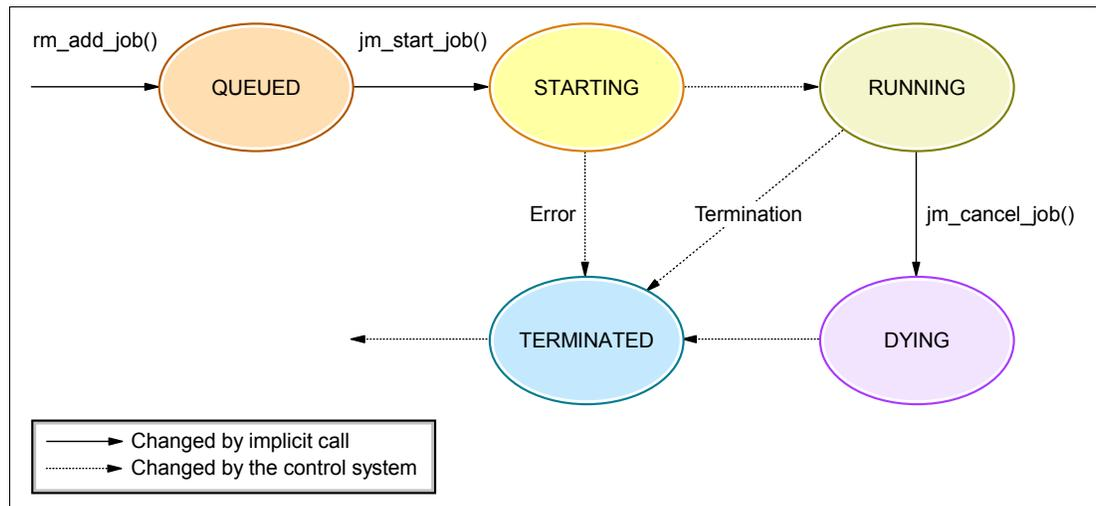
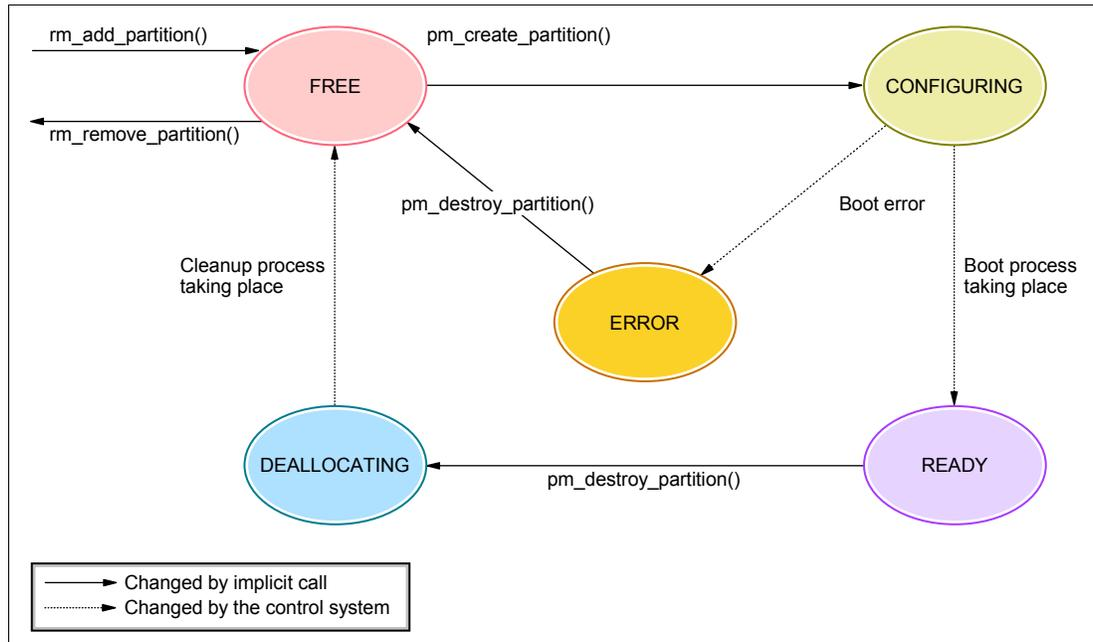

Figure 7-1 Job state diagram
Figure 7-2 Partition state diagram
Figure 7-1 illustrates the main states that a job goes through during its life cycle.
Figure 7-2 describes the various partition states.
- ▶ **INCOMPATIBLE\_STATE**: The state of the partition or job prohibits the specific action (see Figure 7-1 and Figure 7-2 for state diagrams).
The partition’s current state forbids its removal. See Figure 7-1 on page 83.
- The current state of the partition or the job prevents this assignment. See Figure 7-1 and Figure 7-2.